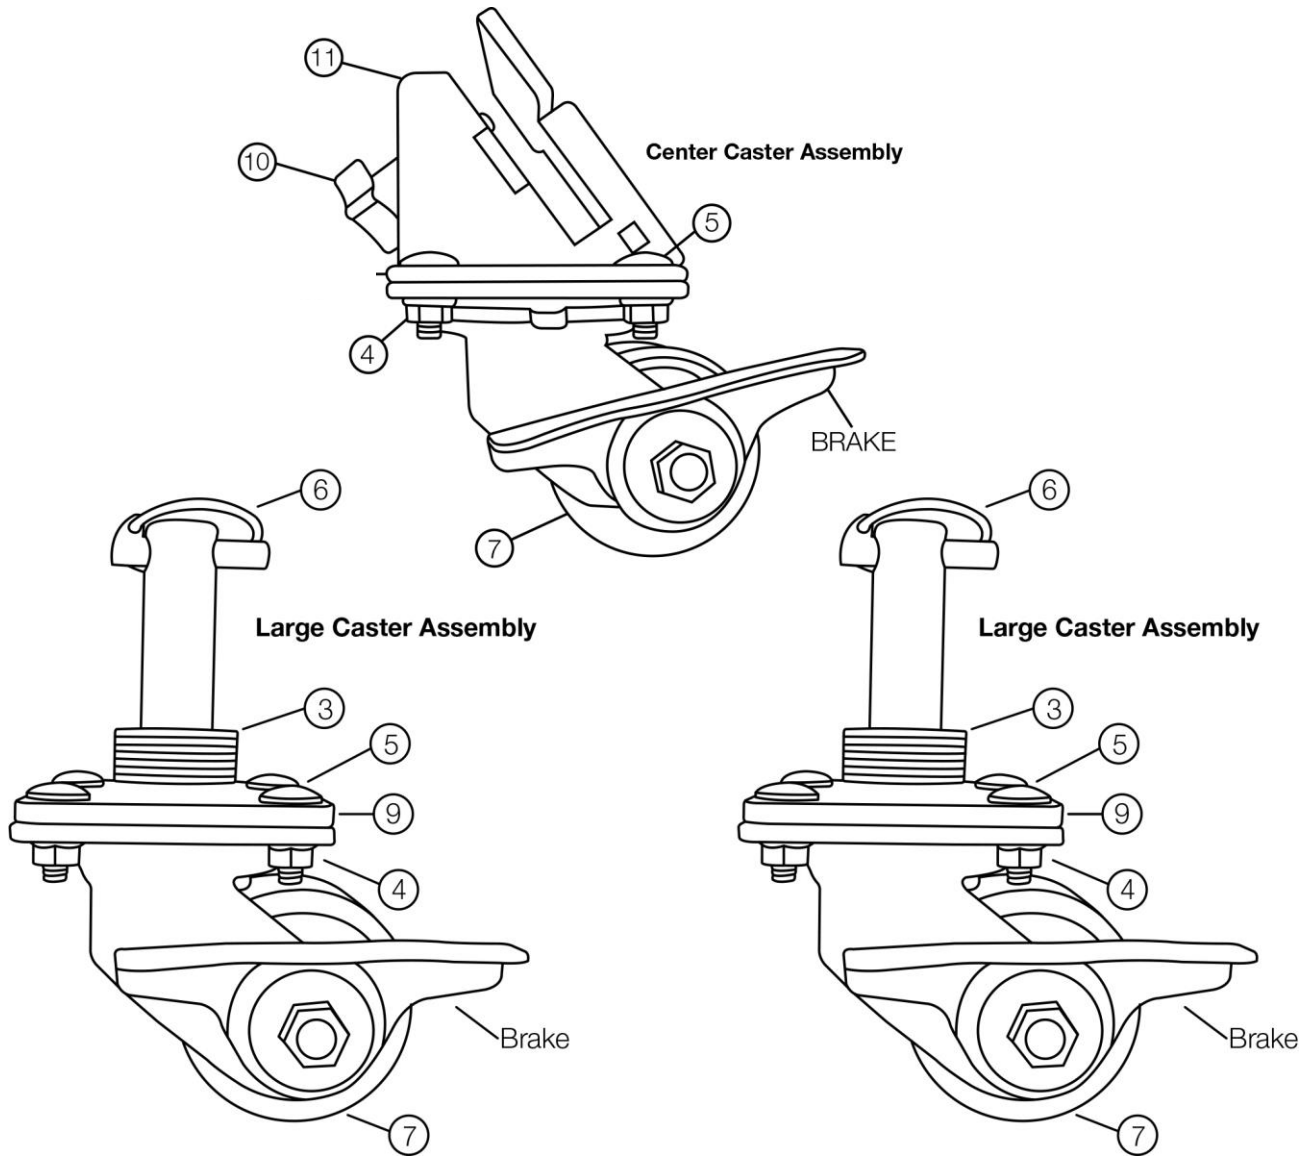

Figure 5. Caster Kit, DXT V-Blade Casters Shown Assembled – Note: extra hardware included
1. With the V-Blade plow on the truck and after casters are all assembled as shown in Fig.5, begin by raising the V-plow fully. Add **two safety jack stands** under plow's cutting edge for safety.